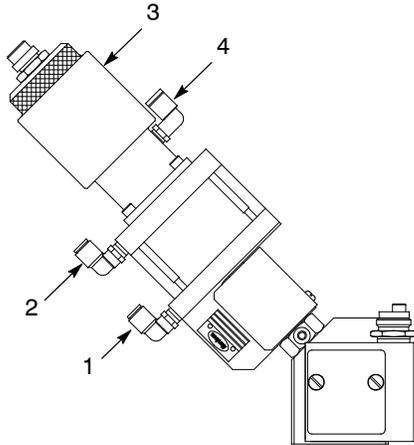

Figure 7 Typical CE20 Gun Operation
1. See Figure 7. Initiate material dispensing by activating the gun-open air port (1).
3. For air-assisted closure, activate the gun-closed air port (2).
4. For guns that use the optional spring closure assembly (3), supply a minimum of 4.8 bar (70 psi) to the air inlet port (4) to deactivate the spring closure assembly.